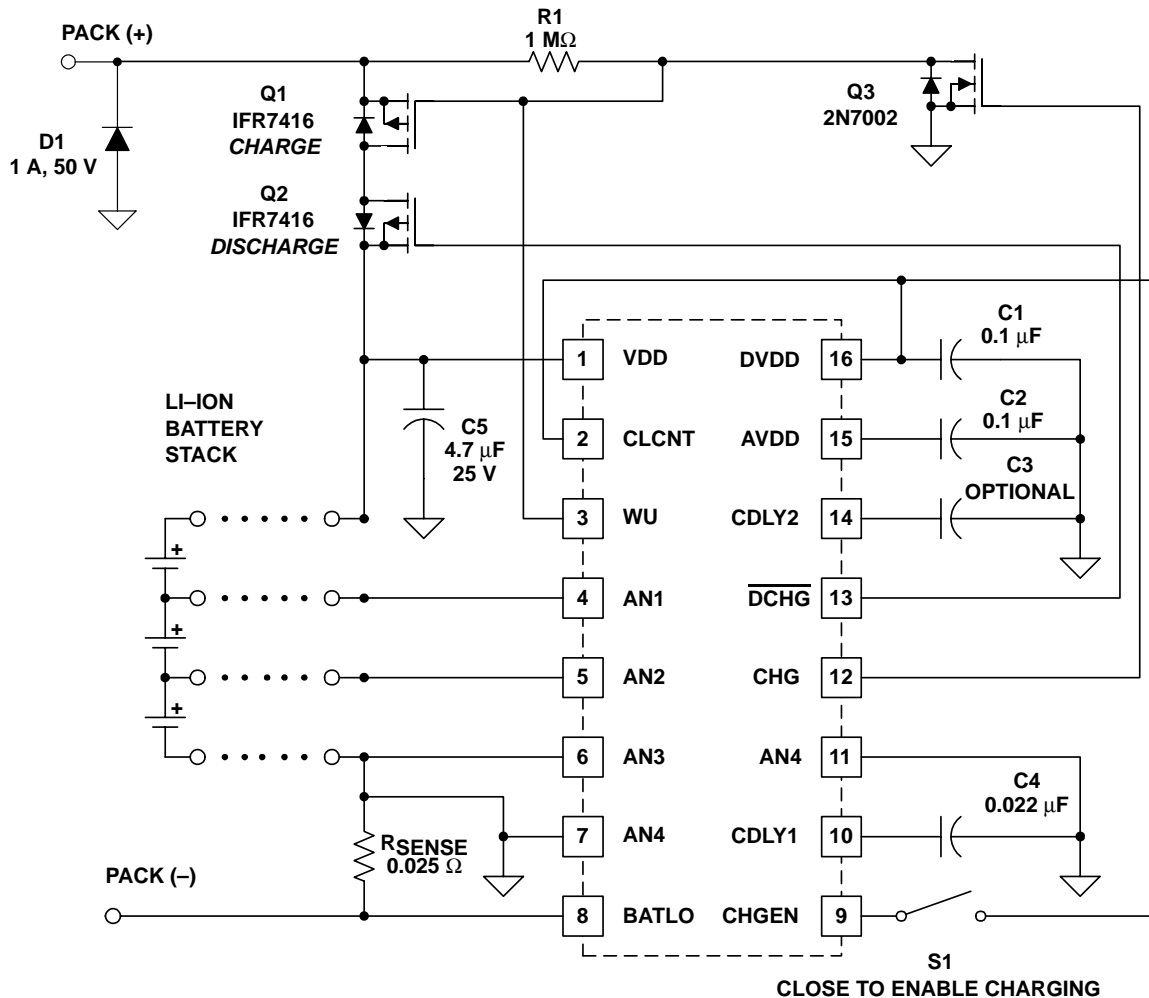
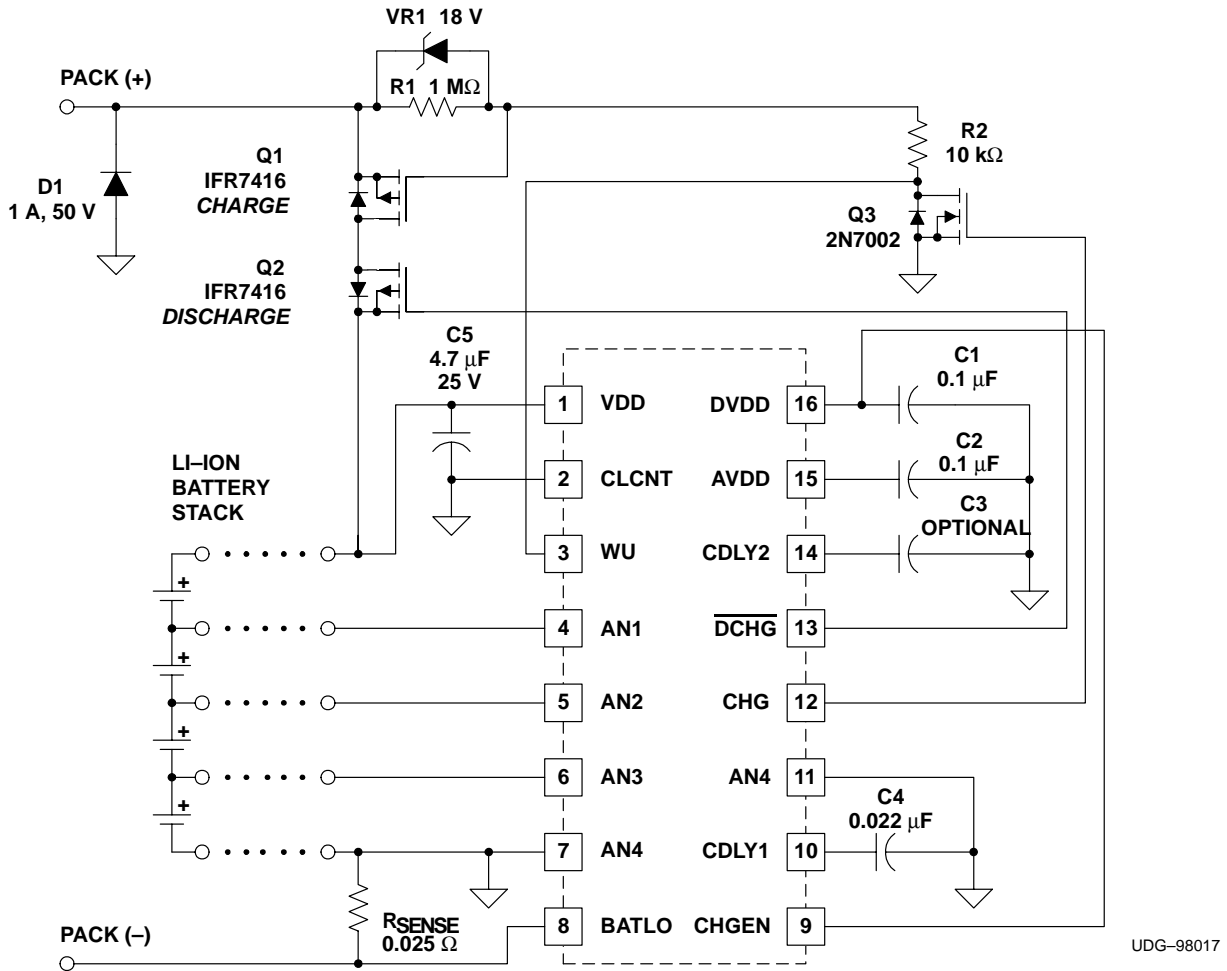
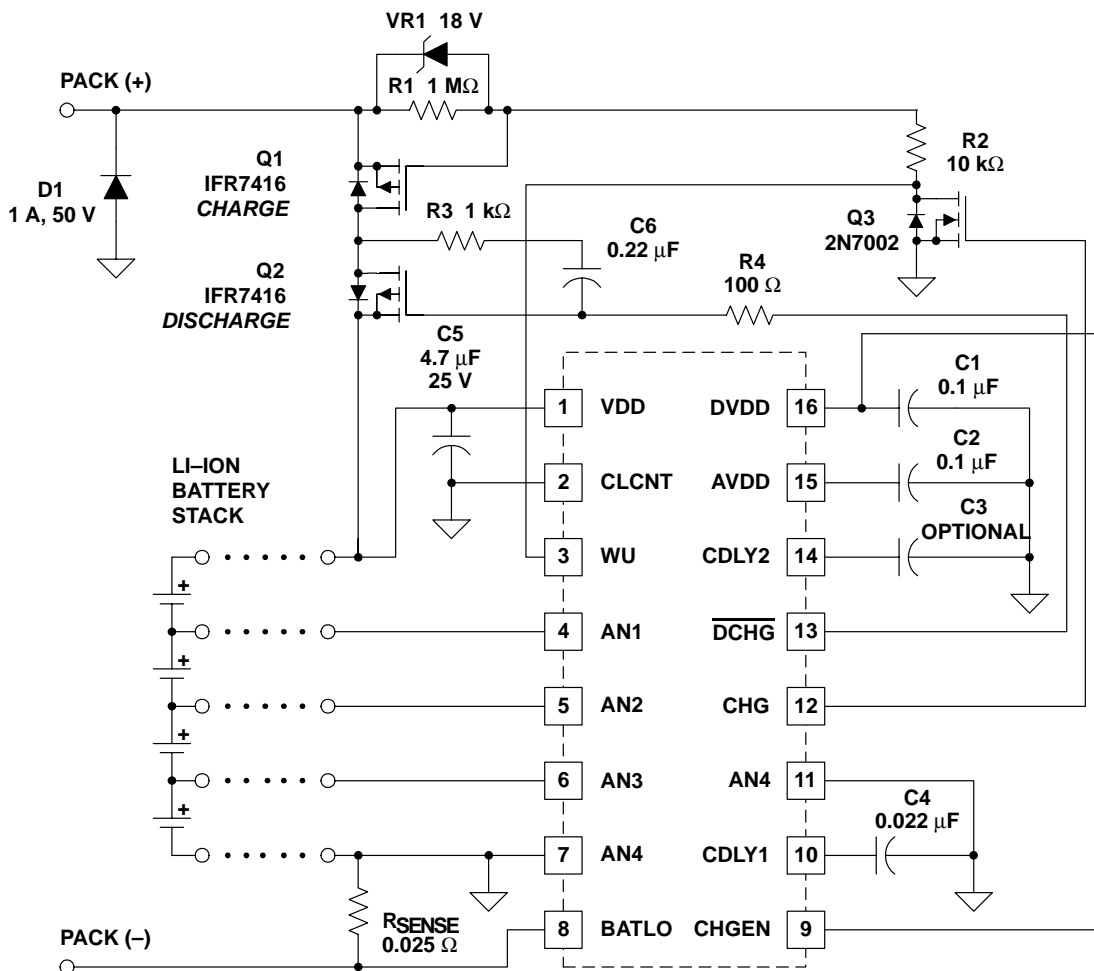
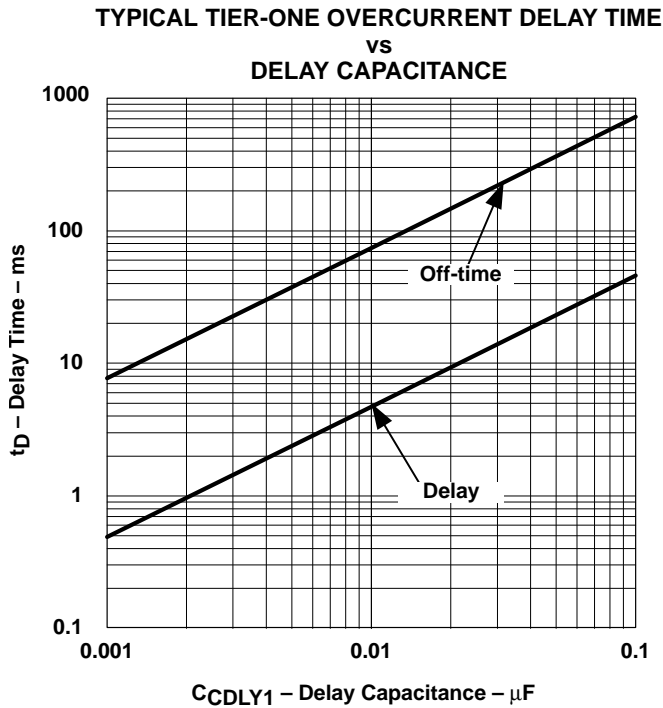

Figure 1. Three-Cell Lithium-Ion Protector Application Diagram
Figure 2. Four-Cell Lithium-Ion Protector Application Diagram
Figure 3. Four-Cell Lithium-Ion Protector Application Diagram
Figure 4
The UCC3957 provides complete protection against overdischarge, overcharge and overcurrent for a three- or four-cell lithium-ion battery pack. It uses a *flying capacitor* technique to sample the voltage across each battery cell and compare it to a precision reference. If any cell is in overvoltage or undervoltage, the internal-state machine takes the appropriate action to prevent further charge or discharge. High-side P-channel MOSFETs are used to independently control charge and discharge current. Figure 1 shows a three-cell lithium-ion protector application diagram with the optional charge-enable switch. In this application, the diode D1 protects the MOSFET Q2 from inductive kick at turn-off.
Figure 2 shows a four-cell protector with optional components to protect the charge FET from excessive gate-to-source transients. In this application, the Zener diode VR1 and the resistor R2 are optional. They protect the MOSFET Q1 from excessive open-circuit charger voltage. Diode D1 protects MOSFET Q2 from inductive kick during turn-off.
The use of a small N-channel level shifter (Q3 in the application diagrams) allows the IC to interface with the high-side charge FET (Q1), even in the presence of a runaway charger. Only the drain-source voltage rating of the charge FET limits the charge voltage that the protection circuit can withstand. The wakeup (WU) pin is designed to handle input voltages greater than VDD, as long as the current is limited. In the examples shown, the charge FET's gate-source resistor (R1) provides this current limiting. Note that in Figure 2, a resistor and zener (R2 and VR1) have been added to protect Q1 against any possibility of a voltage transient exceeding its maximum gate-source rating.
The first-tier threshold is 150 mV nominal, corresponding to 6 A using a .025- $\Omega$  sense resistor as shown in the examples of Figure 1 and Figure 2. If the pack-discharge current exceeds this amount for a period of time, determined by the capacitor on the CDLY1 pin, it then enters the hiccup mode. The first-tier hiccup duty cycle is fixed at approximately 6%, minimizing power dissipation in the event of a sustained overload. The absolute on and off times of the discharge FET (Q2) are controlled by the CDLY1 capacitor. A curve relating the delay (on time) to this capacitor value is shown in Figure 4. The off time is approximately 17 times longer than the on time.
In the examples shown in Figure 1 and Figure 2 (with CDLY1 = .022  $\mu$ F), the first-tier overcurrent on time is approximately 10 msec, while the off time is approximately 170 msec, resulting in a 5.9% duty cycle for currents over 6 A (but less than 15 A). If no CDLY2 capacitor is used, the second-tier on time is less than 200  $\mu$ sec (assuming no stray capacitance), resulting in a duty cycle of about 0.1% for currents over 15 A. If CDLY2 = 22pF, the typical on time for currents exceeding 15 A is approximately 800  $\mu$ sec, resulting in a duty cycle of 0.5%.
In the case of a short circuit, the  $di/dt$  that occurs when the discharge FET is turned off can result in a significant voltage undershoot at the pack output due to stray inductance. This undershoot can potentially exceed the breakdown voltage rating of the discharge FET. A clamp diode (D1 in Figure 1, Figure 2, and Figure 3), or a capacitor across the pack output, protects against this possibility. A diode also provides protection from a reverse-polarity charger.
This allows the designer to select shorter overcurrent-delay times, minimizing the stress on Q1 and Q2 in the event of a shorted pack output. A simple method of implementing slew-rate limiting is shown in Figure 3. It consists of an RC network (R3 and C6) between gate and drain of the discharge FET (Q2) to control its turn-on time. This circuit relies on the relatively high-sink impedance (about 20 k $\Omega$ ) of the UCC3957's  $\overline{\text{DCHG}}$  output. The values shown for R3 and C6 provide a pack output voltage rise time of about 4.5 ms when the discharge FET (Q2) is turned on. Note that the addition of R3 and C6 has made it possible to eliminate the CDLY2 capacitor, for the quickest response to a true short circuit. While this circuit does not prevent a large surge current when inserting a *live* battery pack into a highly-capacitive load, it does allow it to restart (after one hiccup cycle) if this initial surge-current trips the overcurrent protection.
Figure 3 shows a four-cell protector with slew-rate limiting the discharge FET. In this application, VR1 and R2 are optional, They protect Q1 from excessive open-circuit charger voltage. R3 and C6 are chosen based on capacitive load that must be driven. R4 minimizes inductive kick at turn-off.